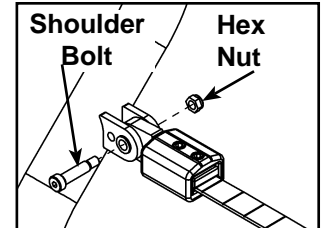

Figure 2
- E. Locate the belt attached to the pivot arm. Remove the shoulder bolt and hex nut securing belt to the pivot arm. Figure 2.
- N. Connect other end of belt to the arm using the BHSCS and nylon locknut from step 4E. See Figure 2.